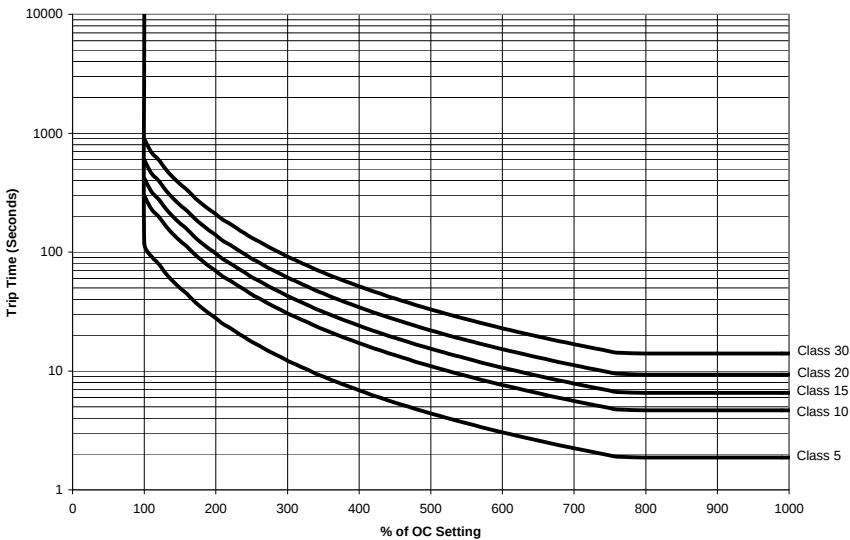

Figure 5: Overload Trip Curves
- While the standard trip classes are 5, 10, 15, 20, and 30, TC can be set from 2–60, with or without jam protection. The trip class setpoint is the time in seconds that the device will take to trip when any phase current is greater than or equal to 600% of the OC setpoint. These additional “non-standard” trip classes allow the unit to follow a trip curve in-between the “standard” trip class curves shown in Figure 5.
- The motor manufacturer should be contacted for an exact TC setting. Table 3 describes the trip classes, and Figure 5 shows the trip class curves.